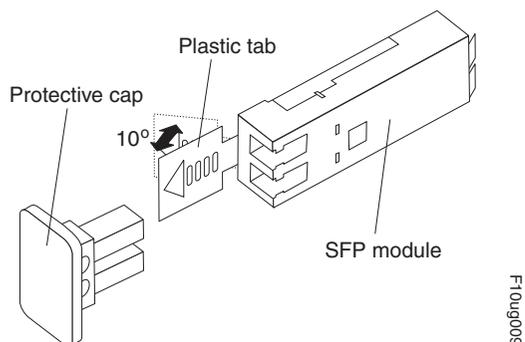

Figure 3. Unlocking the SFP module latch - plastic variety
- For SFP modules that contain plastic tabs, unlock the SFP module latch by pulling the plastic tab outward 10°, as shown in Figure 3.